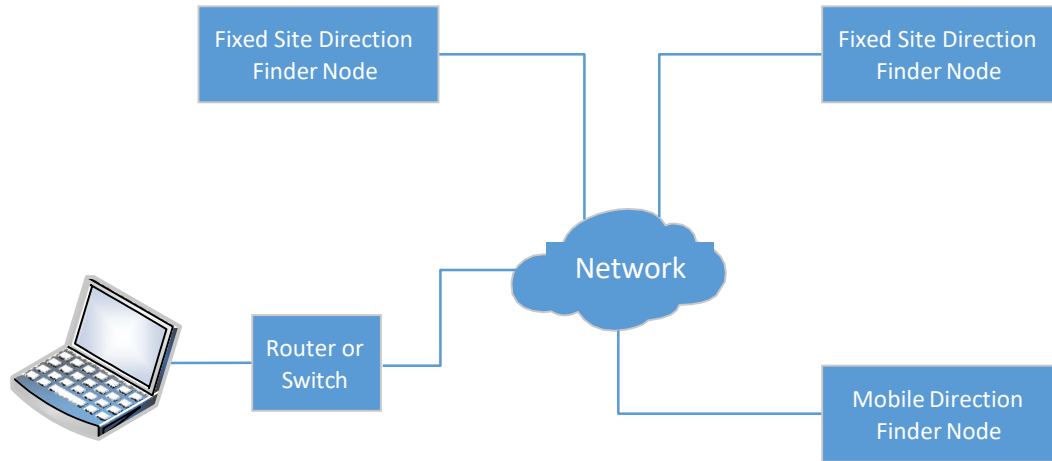
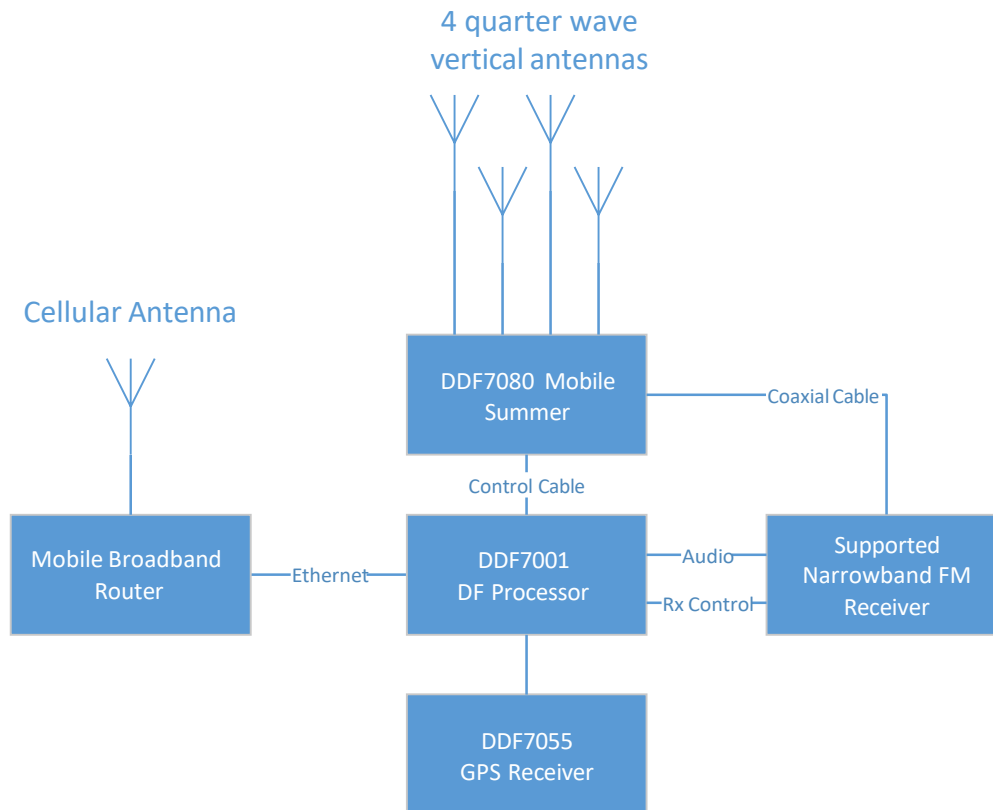
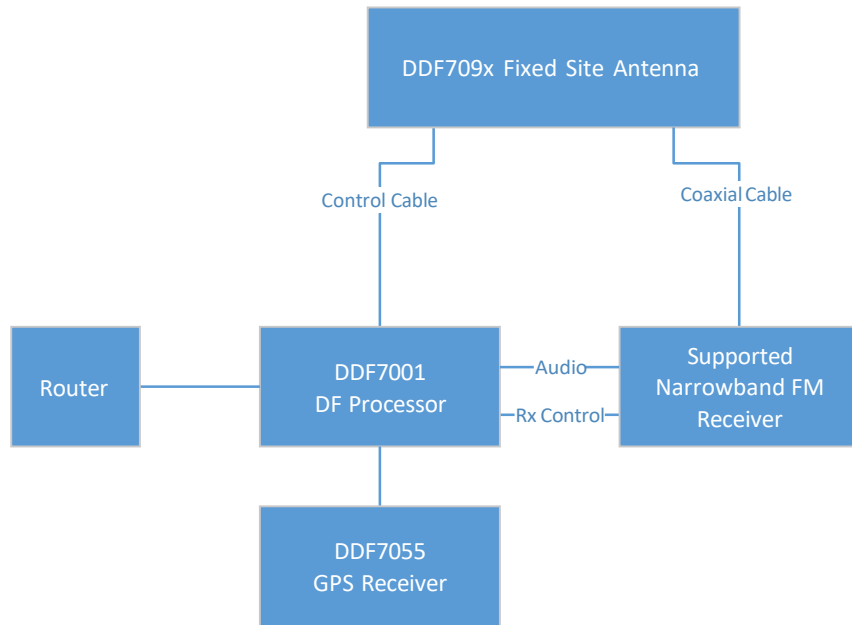

Figure 6: Example Network of Two Fixed Site Direction Finders and One Mobile Direction Finder
Figure 7: Equipment Compliment for Networked Mobile Direction Finder Node
Figure 8: Equipment Complement for Networked Fixed Site Direction Finder Node
Any number of mobile and/or fixed site radio direction finders can be networked to provide an instantaneous estimate of a target transmitter's location. Figure 6 provides an example of a networked system. The network can be a local area network (LAN), a wide area network (WAN), the Internet, or a private network. The only requirement is that the network interface supports Internet protocol (IP). The bandwidth requirements are minimal with bearing data transmitted every 0.5 seconds. At least one network connection to the computer must support 16 kbs for audio streaming. Typical equipment complements for a mobile direction finder and fixed site direction finder are shown in Figure 7 and Figure 8. Each DF processor supports up to 10 TCP/IP connections so multiple users can monitor and/or control the network.